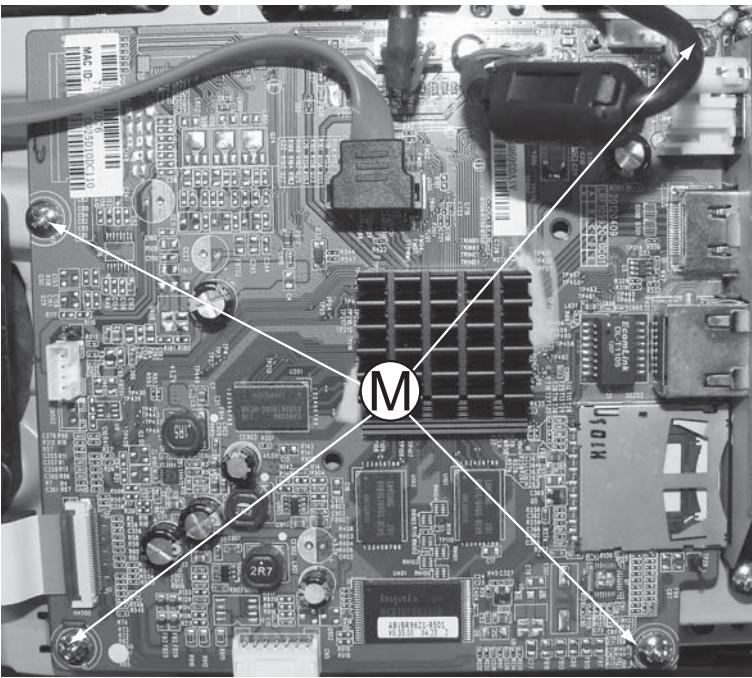

Figure 13
- 2) Loosen 4 screws "M" on the top of BD board as shown in figure 13 to remove the BD board.